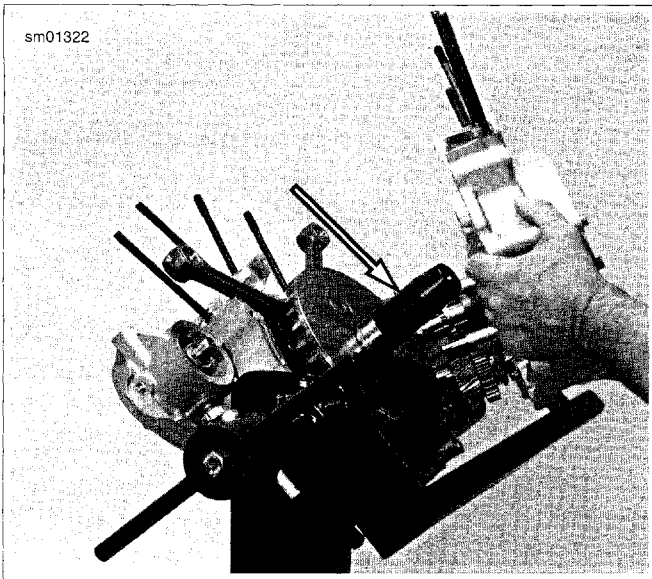

Figure 5-101. Assembling Crankcases With Crankshaft Guide Tool (Part No. HD-42326-A)
4. See Figure 5-101. Assemble crankcase halves together.